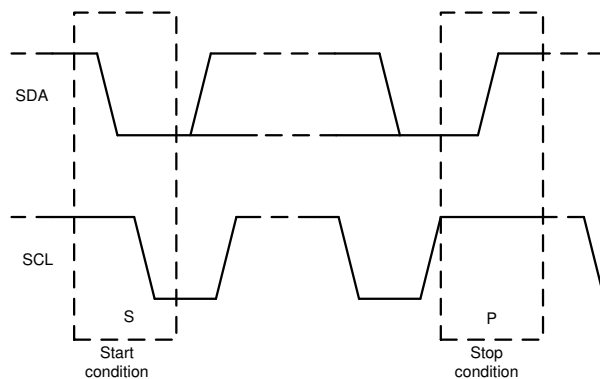

Figure 7-16. Start and Stop Conditions
1. The controller initiates data transfer by generating a start condition. The start condition is when a high-to-low transition occurs on the SDA line while SCL is high, as shown in Figure 7-16. All I²C-compatible devices recognize a start condition.
4. To signal the end of the data transfer, the controller generates a stop condition by pulling the SDA line from low-to-high while the SCL line is high, as shown in Figure 7-16. This action releases the bus and stops the communication link with the addressed target. All I²C-compatible devices recognize the stop condition. Upon receipt of a stop condition, the bus is released, and all target devices then wait for a start condition followed by a matching address.